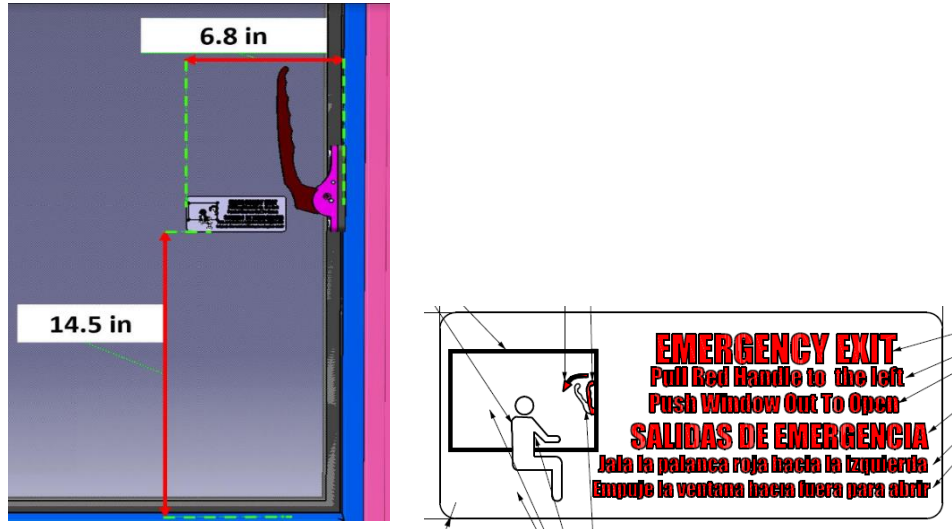

Figure-2
2. Remove all labels and stick new labels by means of the given dimensions in the picture below (See Figure-2)